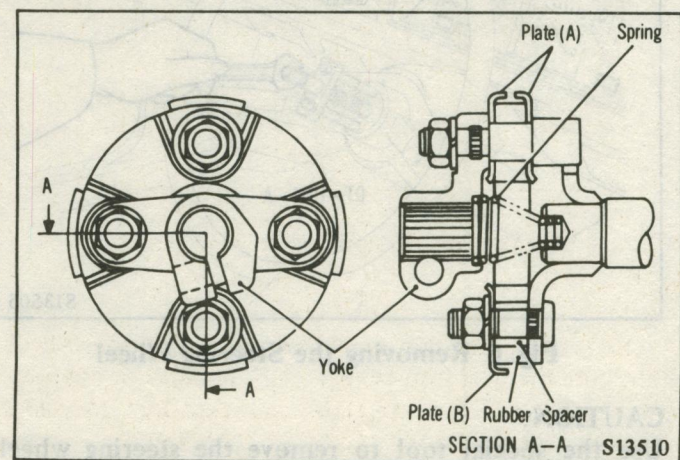

Fig. 11 Installing the Steering Coupling and Yoke
(1) Apply the chassis grease [MOPAR Multi-Mileage Lubricant (Part Number 2525035) or equivalent] to the shaft bearing, sliding surface of dust seal, and bushing.
(2) Attach coupling and yoke to the lower end of steering shaft. Tighten to the specified torque. (Fig. 11)